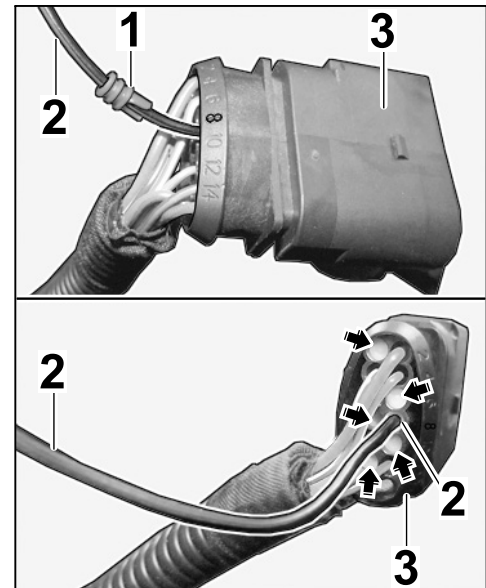

Figure 29
- 3.4.3 Cut off pin contact 0.35 – 1.6 on the line 0.52; BK/YE and slide single-wire seal onto the line while bearing in mind the subsequent installation position (⇒ *Figure 29 -top-*).